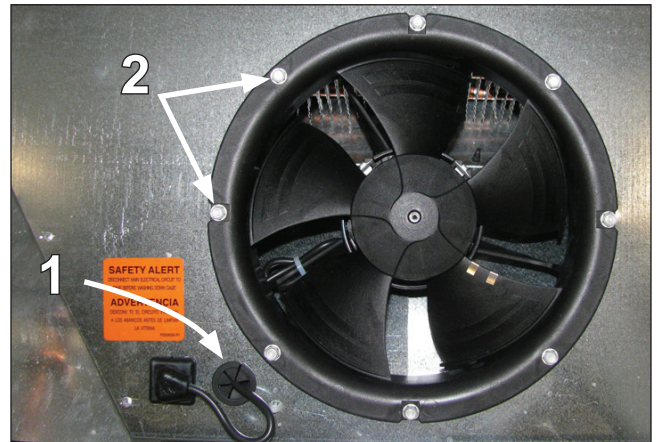

Fig. 20 Fan basket
1. Unplug the fan motor (Fig. 20), easily accessible outside the plenum. Be certain to push power cord back through plenum opening.